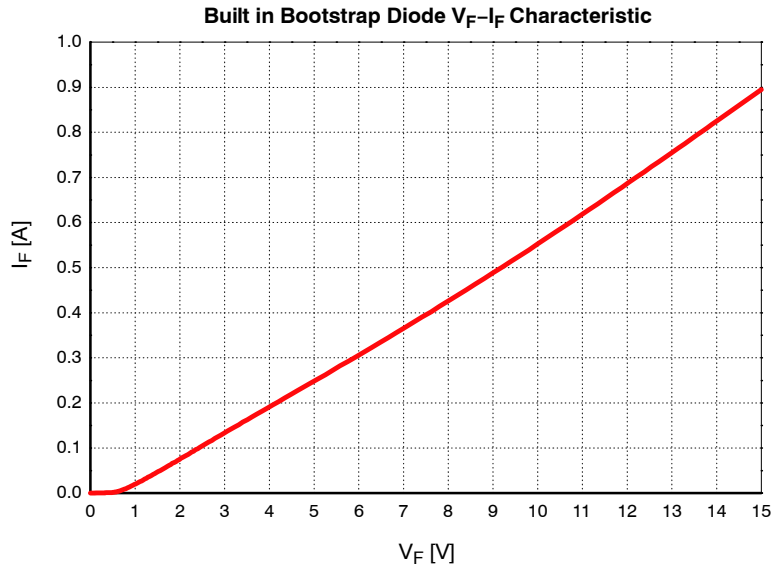

Figure 2. Built-in Bootstrap Diode Characteristics (Typical)
- Built in bootstrap diode includes around 15 Ω resistance characteristic. Please refer to Figure 2.